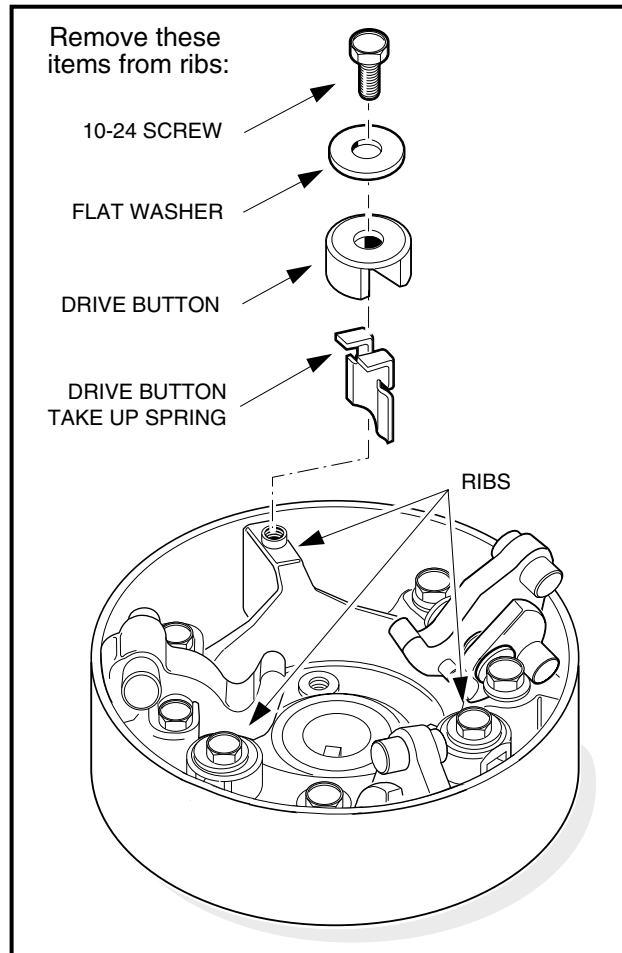

Figure 17-8 Drive Button Mounting
- 4.1. Remove the screws, flat washers, drive button take-up spring, and drive buttons as shown (**Figure 17-8, Page 17-10**).
14. While compressing the take-up spring, install the drive button over the rib and take-up spring as shown (**Figure 17-8, Page 17-10**).